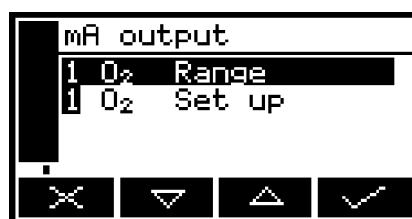

Figure 32 - The mA configuration screen
2. Use the  and  soft keys to highlight the "mA output" menu option, then press the  soft key: the mA configuration screen is then shown (see Figure 32).